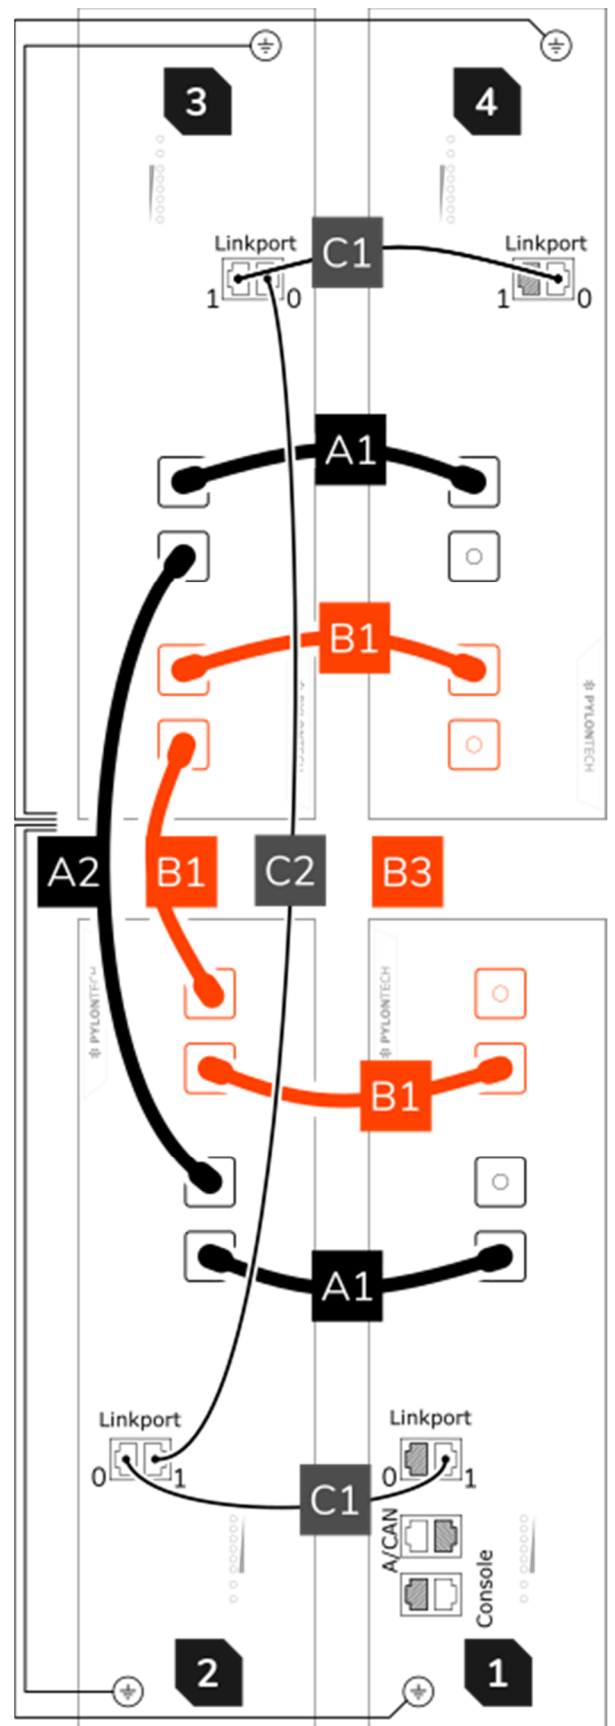

Figure 10: Installing the battery jumper cables.
2. Press and hold the Start button on the master battery module for 0.5 seconds. The master battery is the lower-front module in the battery cabinet. Wait for the battery module to initialize to the normal/idle state. See also figure 10, module position 1 for reference.